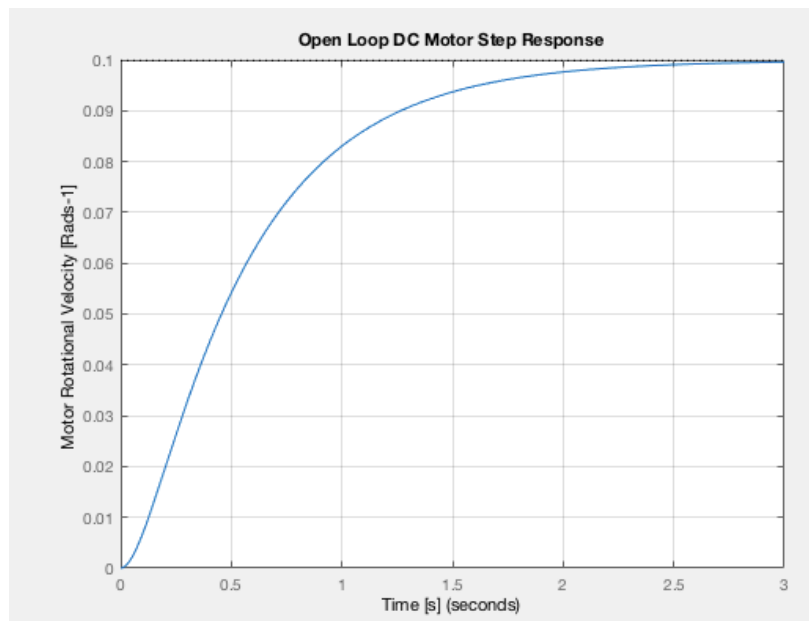

Figure 2. Voltage step response of DC motor output velocity
- You should get something like the plot shown in Fig. 2 shown below: